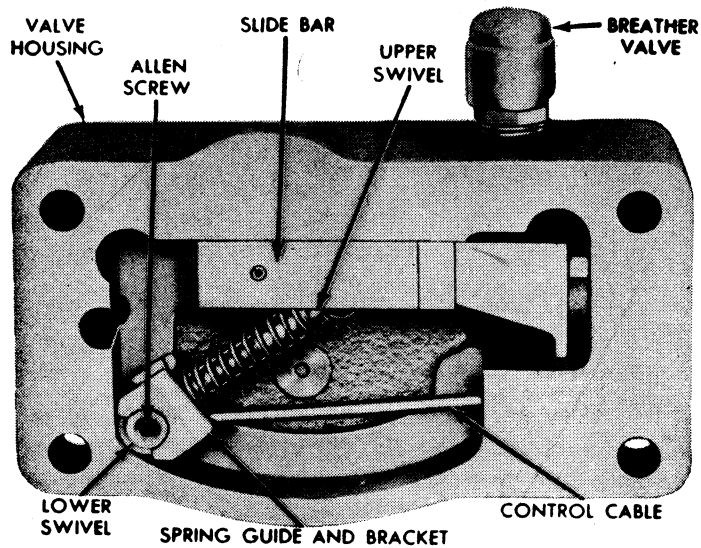

Fig. 8 Air valve
2. Remove breather valve, Fig. 8.
4. *Remove short control cable only for replacement.* Remove Allen set screw from end of lower swivel and pull cable from swivel through opening in front end of valve housing, Fig. 8.
3. Position slide bar, spacer and shift fork in housing. *Shift fork must engage groove in valve and spacer must be positioned between slide bar and shift fork, Fig. 8.*